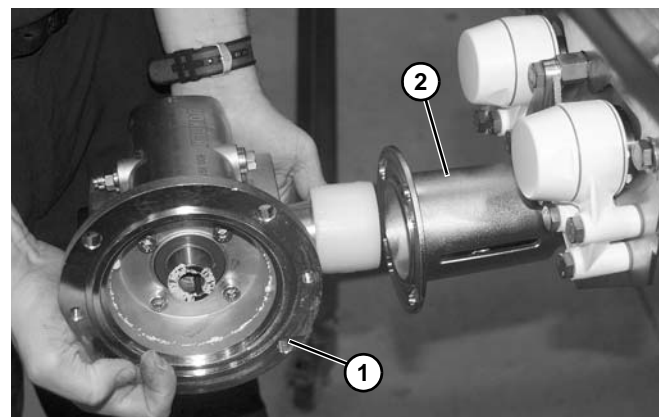

Figure 171
5. Rotate and remove gear reducer (Figure 171, item 1) from the motor mount (Figure 171, item 2).